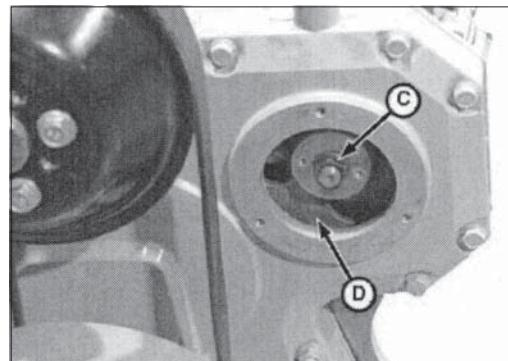

Figure 24 Reproduced by permission of Deere & Company, c.2004. Deere & Company. All reserved.
4. Install injection pump gear (Fig. 24 D) on the drive shaft. Install the injection pump gear mounting nut (C) but do not tighten it yet.